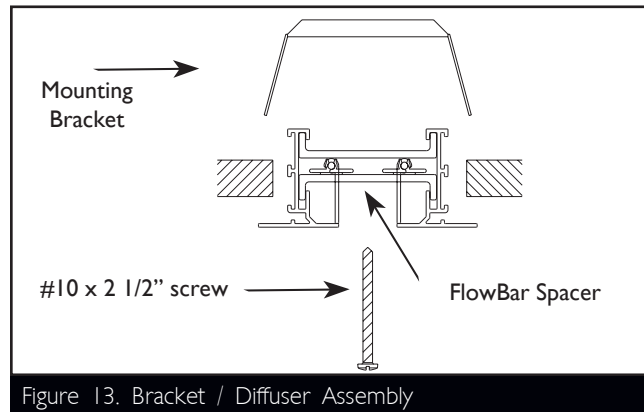

Figure 13. Bracket / Diffuser Assembly
- Install the QuickClip® Mounting Bracket to the FlowBar Spacer at the desired interval by pushing the #10 x 2-1/2" long screw through the hole in the spacer from the face of the Diffuser. Start the threaded end of the screw into the bracket as shown in Figure 13.